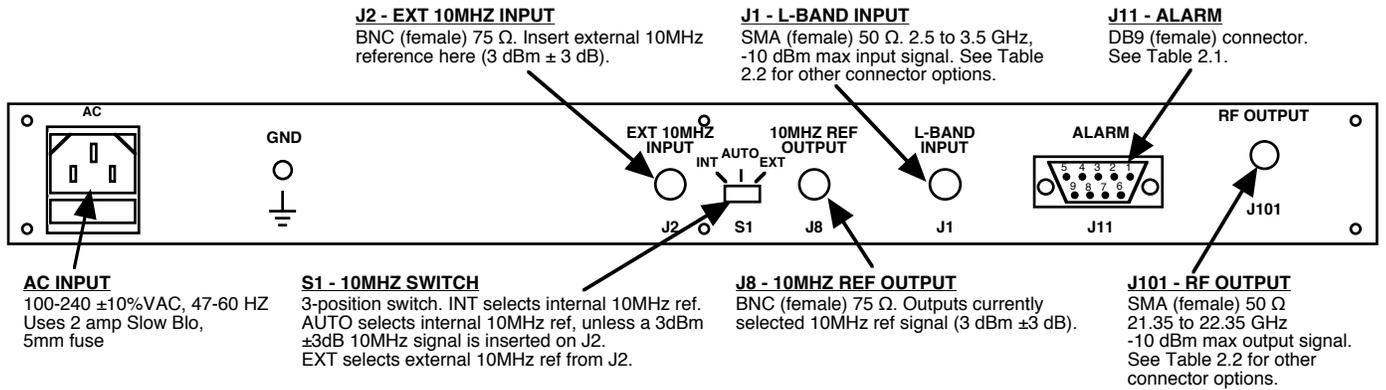

FIGURE 2.1 2115-222 Rear Panel I/O's
2.2 Rear Panel Input/Output Signals - Figure 2.1 shows the input and output connectors on the rear panel.
1. Connect a -30 dBm to -10 dBm 2.5 to 3.5 GHz signal to L-BAND INPUT, J1 (Figure 2.1).
5. Select either INT (for internal 10MHz ref), AUTO (for internal 10MHz ref UNLESS a external 10MHz, +3 dBm signal is connected to J2), or EXT (for external 10MHz, +3 dBm ref that is inserted at J2) on rear panel switch S1 (Figure 2.1).
7. Check that a 10MHz, +3 dBm \pm 3 dB signal is present at the 10MHZ REF OUTPUT (J8) (Figure 2.1).